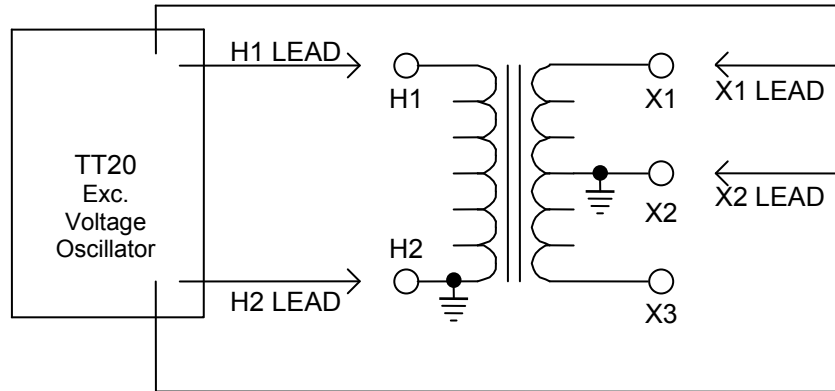

Figure 4-5 Setup for Testing X1 – X2 Winding of Distribution Transformer (H2 and X2 Grounded)
3. When testing X1-X2 winding, connect, respectively, the clips marked X1 and X2 of the test lead to the X1 and X2 terminals of the transformer under test. Expect that polarity of the windings is normal (“+” sign is displayed in front of the turns ratio test result). See *Figure 4-5*.